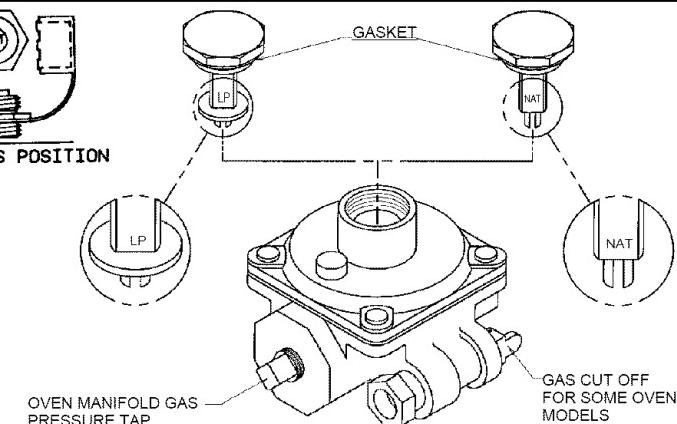

FIGURE 8
3. Remove cap and forcibly snap out plastic plunger from bottom of cap. Turn plunger over and forcibly snap back in original location (figure 8).